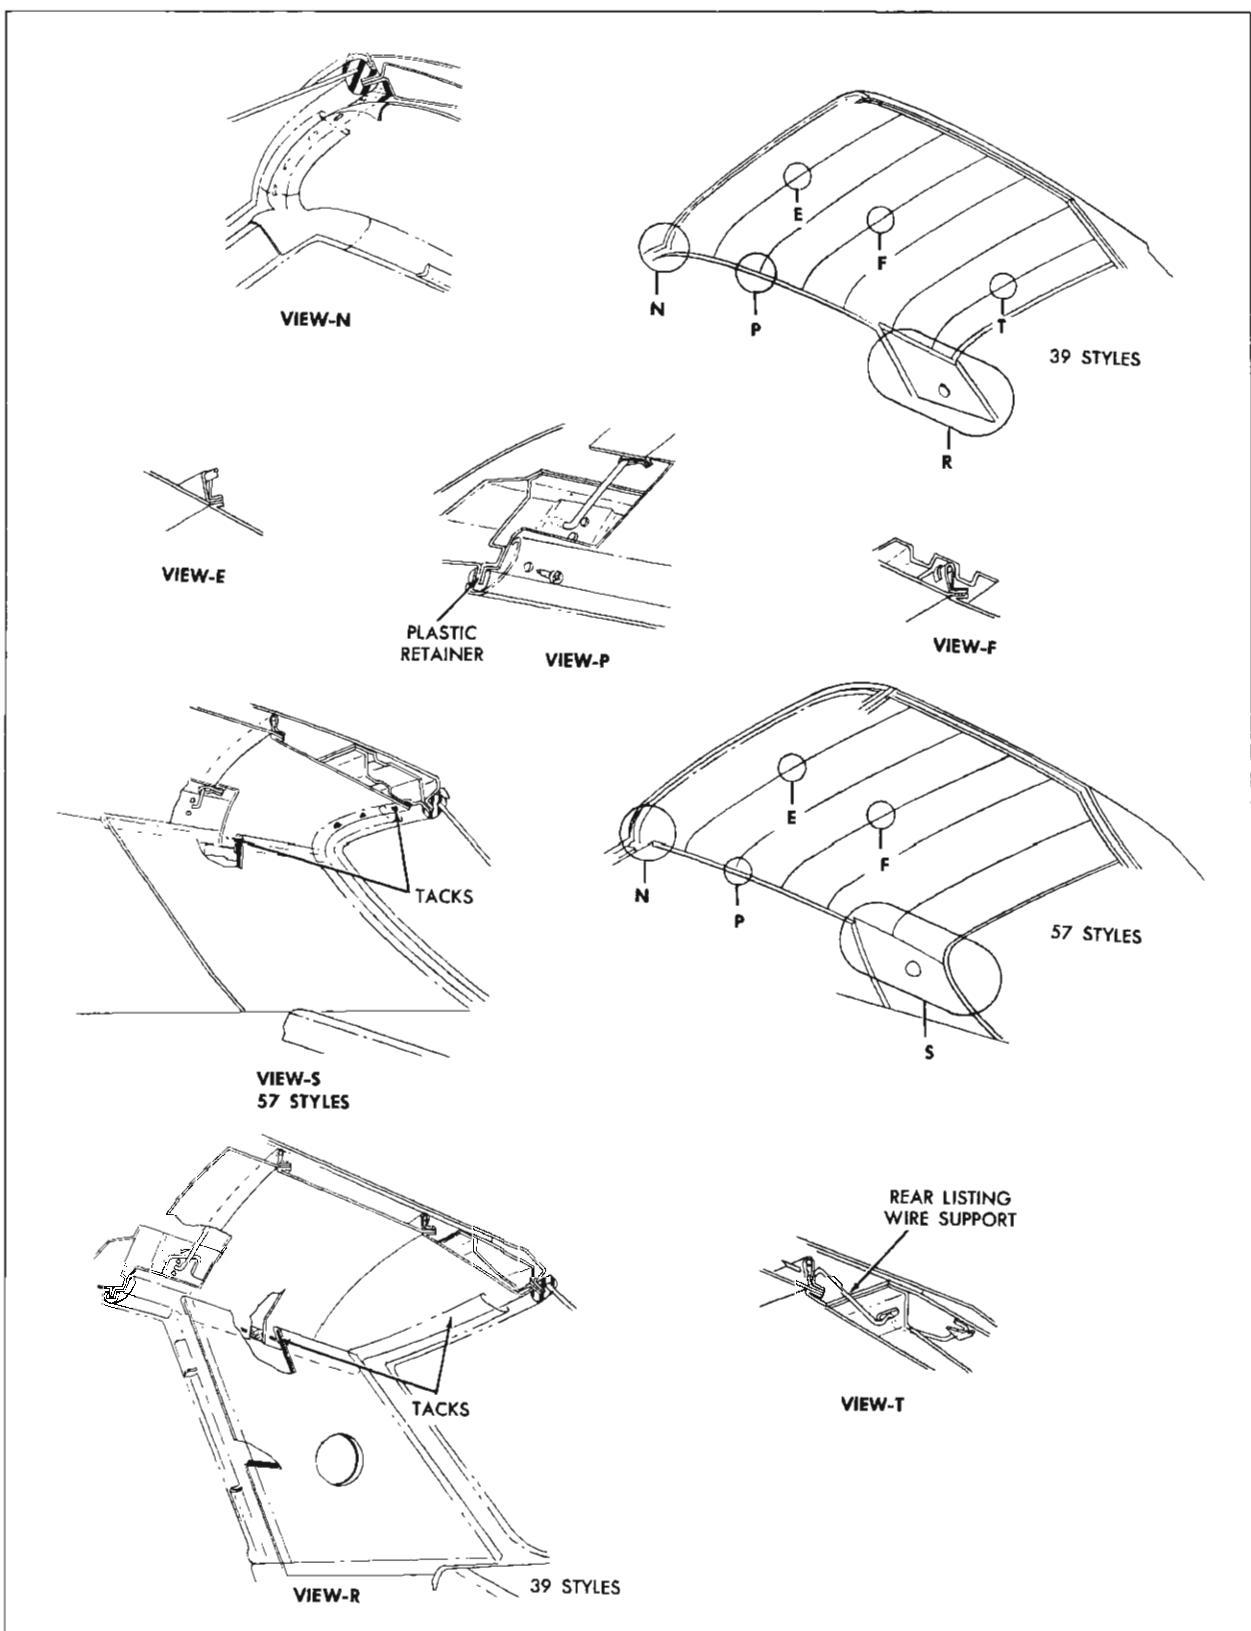
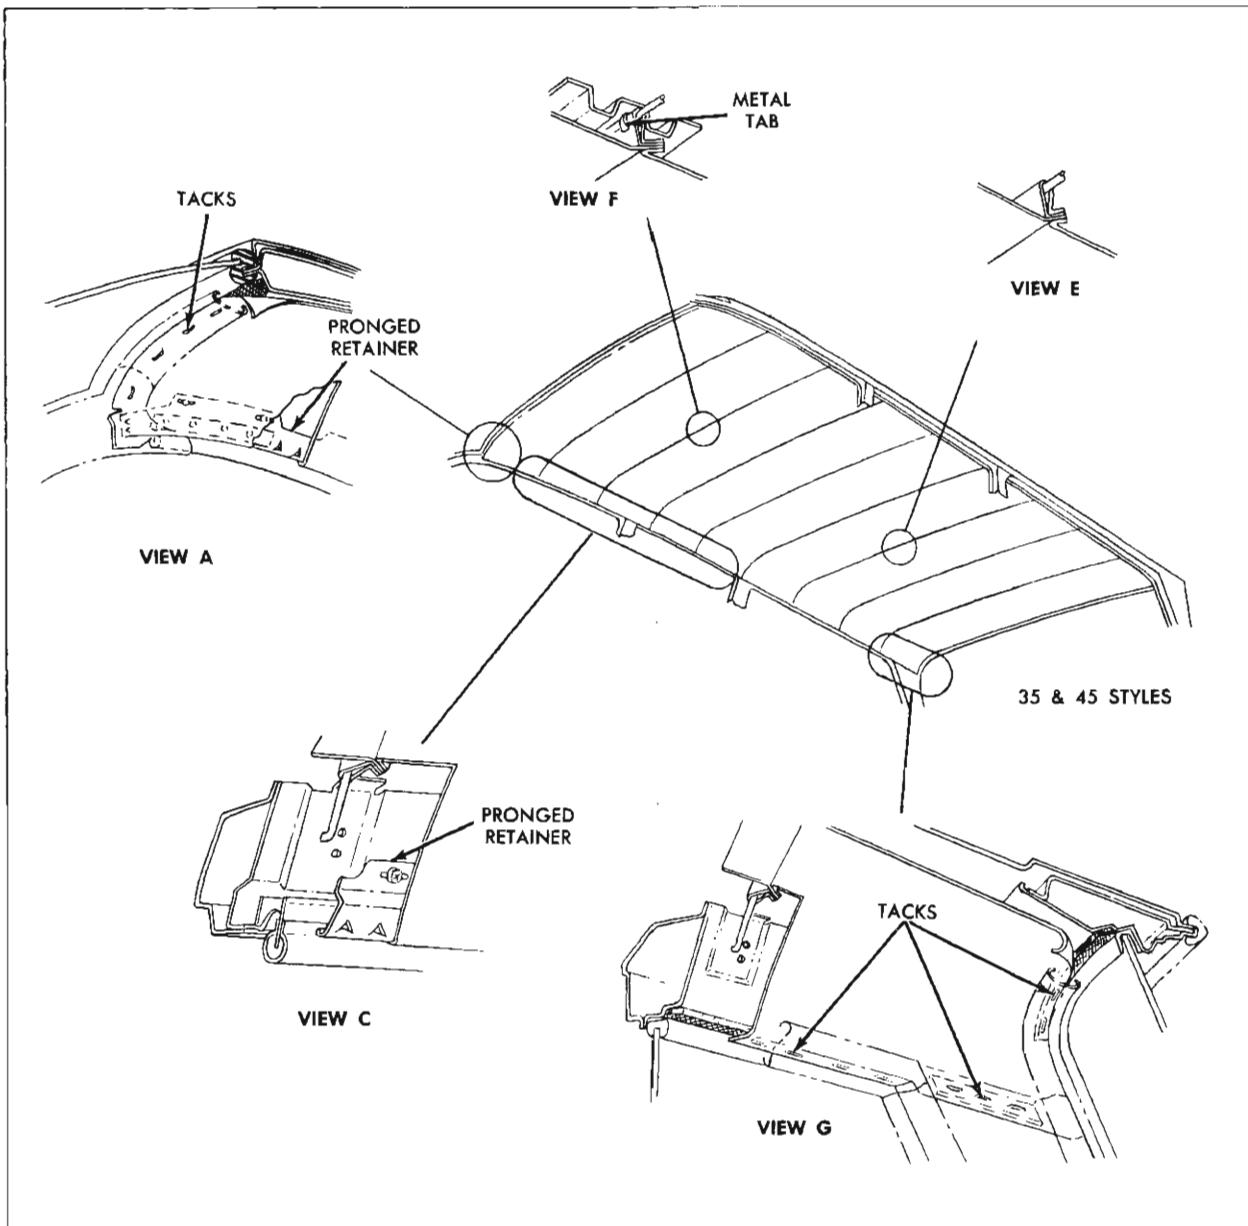
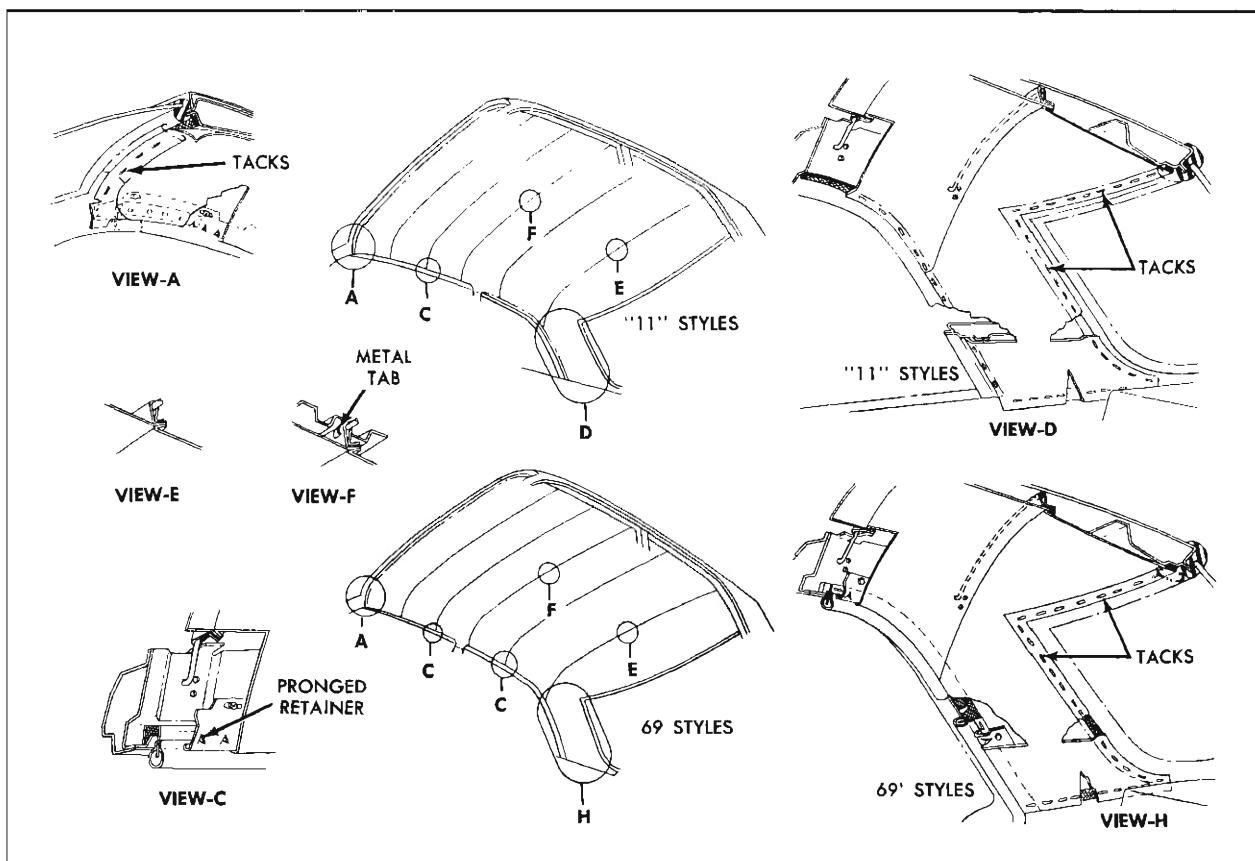
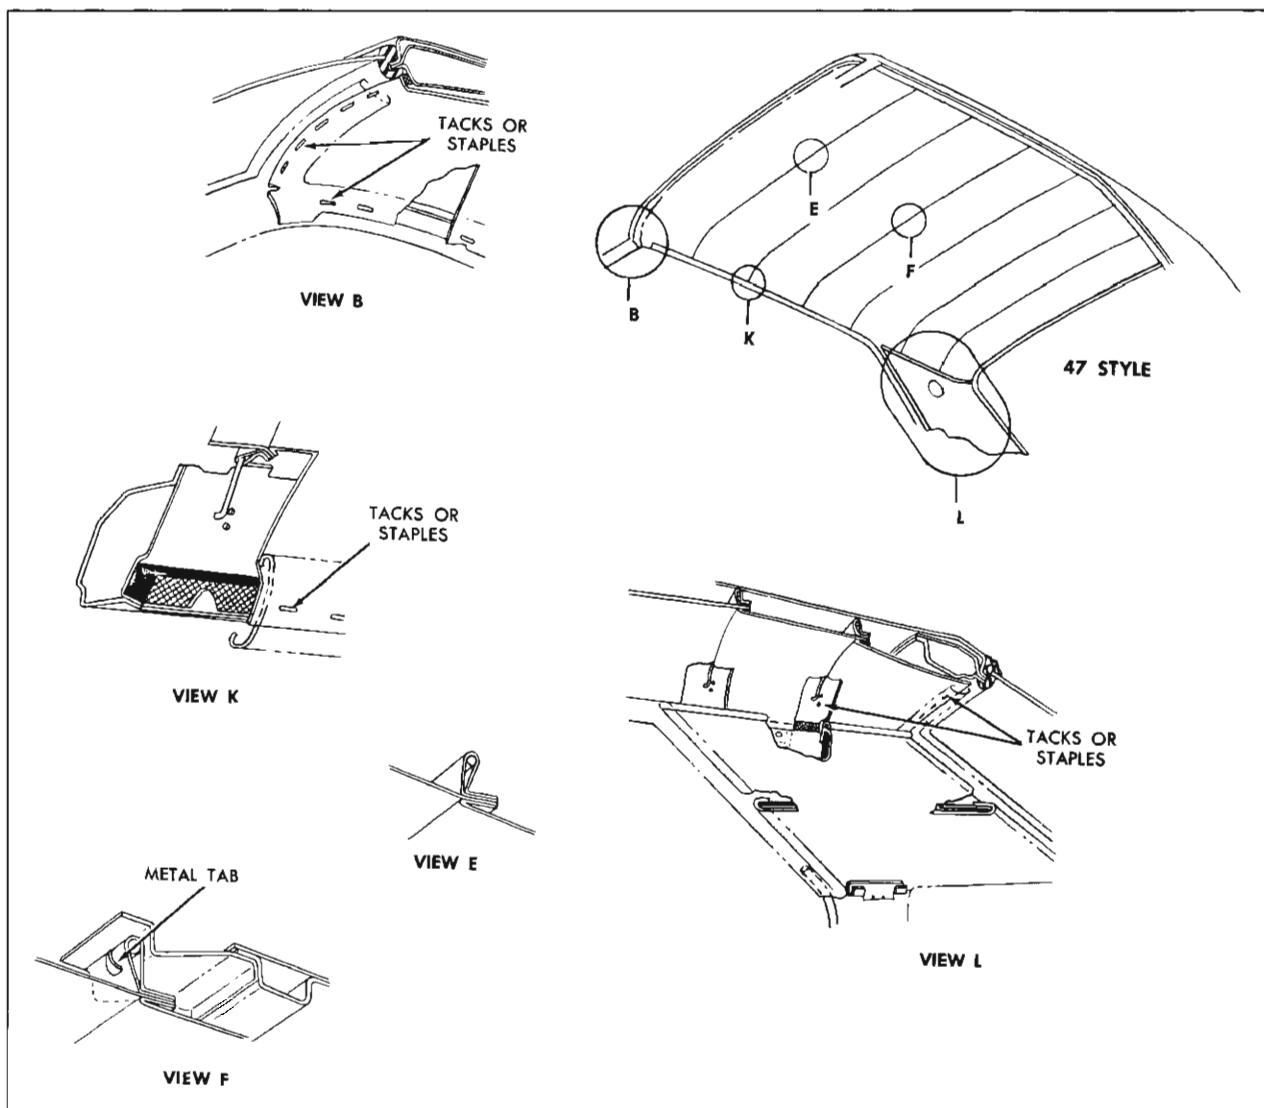

Fig. 7-1 Headlining Installation—39-57 Styles
Fig. 7-2 Headlining Installation—35 & 45 Styles
Fig. 7-3 Headlining Installation—11 & 69 Styles
Fig. 7-4 Headlining Installation—47 Style
4. On 11, 69, 35 and 45 styles, use headlining inserting tool, J-2772, or similar wide-bladed tool and carefully disengage headlining from pronged retainer on side roof rails over door openings (View C, Fig. 7-2 and Fig. 7-3).
On "47" style, remove tacks or staples along side roof rails and rear quarter areas (View K, Fig. 7-4).
On "39" and "57" styles, remove plastic retainer from side roof rail pinchweld flange (View P, Fig. 7-1).
5. On "11", "35" and "45" styles, remove tacks or staples securing headlining at rear quarter windows (View D, Fig. 7-3 and View G, Fig. 7-2).
9. At front roof bow, bent down metal tabs securing listing wire (View F, Fig. 7-1, Fig. 7-2, Fig. 7-3, Fig. 7-4).
10. Remove rear listing wire support on "39" styles (View T, Fig. 7-1).
install rear listing wire. On "39" styles, install rear listing wire support (View T, Fig. 7-1).
6. At front roof bow, bend up metal tabs securing listing wire and listing wire pocket (View F, Fig. 7-1, Fig. 7-2, Fig. 7-3, and Fig. 7-4).
7. Stretch and stay tack headlining along entire windshield and back body or back window opening. Stay tack headlining in rear quarter area where required (View S and R, Fig. 7-1, View G, Fig. 7-2, View D and H, Fig. 7-3 and View L, Fig. 7-4).
10. On 11, 69, 35 and 45 styles, use headlining inserting tool, J-2772, or similar wide-bladed tool and carefully tuck edge of headlining under pronged retainer along both side roof rails. (View C, Fig. 7-2 and Fig. 7-3).
Permanently tack or staple headlining at side roof rails on "47" styles (View K, Fig. 7-4).
On "39" and "57" styles, using headlining inserting tool, permanently install edge of headlining around side roof rail pinchweld and replace plastic retainer (View P, Fig. 7-1).